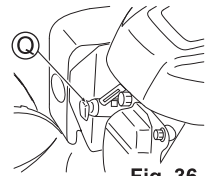

Fig. 36
1. Remove the spark plug cap (Q). (See Fig. 36)